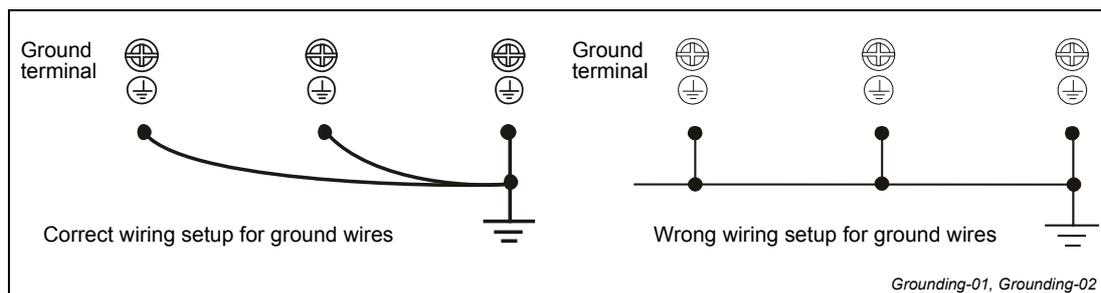

Fig. 1-5: Grounding more than one drive
- When installing more than one drive, do not connect the grounds of the drives in series, but connect each drive to ground via one single point (refer to fig. 1-5).